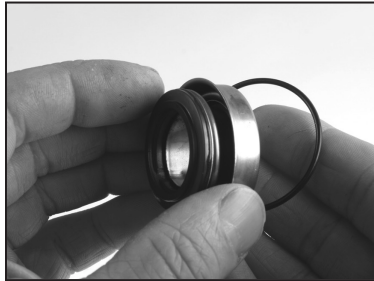

Fig. 6
2. Lubricate and install the o-ring (Ref. 16) around back side of metal portion of the seal (See Fig. 6). Insert the stationary portion of the new mechanical seal (Ref. 15) by carefully pushing only on the outer metal ring as you press it into the pump flange (Ref. 22). Use a tool with 1-1/2" ID, such as 1-1/2" diameter PVC pipe, 4" long that fits over the carbon face of the seal, but pushes only on the metal ring to insert the seal. The carbon surface of the seal must be facing you during installation. Be careful to avoid scratching the seal's carbon surface. (See Fig. 7.)